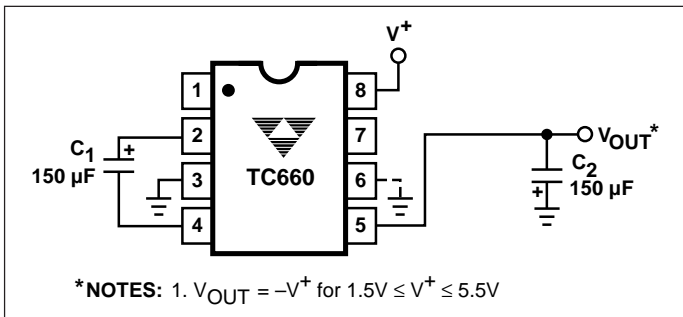
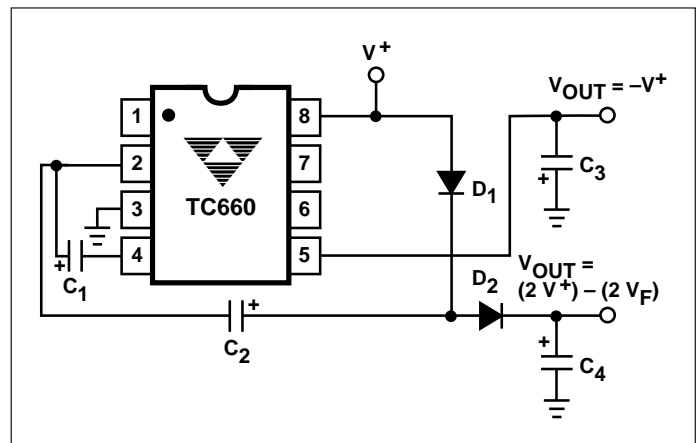

Figure 3. Simple Negative Converter
Figure 10. Combined Negative Converter and Positive Multiplier
Figure 3 shows typical connections to provide a negative supply where a positive supply is available. A similar scheme may be employed for supply voltages anywhere in the operating range of +1.5V to +5.5V, keeping in mind that pin 6 (LV) is tied to the supply negative (GND) only for supply voltages below 3.0V.
The output characteristics of the circuit in Figure 3 are those of a nearly ideal voltage source in series with 6.5Ω. Thus, for a load current of -100mA and a supply voltage of +5V, the output voltage would be -4.35V.
Figure 10 combines the functions shown in Figures 3 and 8 to provide negative voltage conversion and positive voltage multiplication simultaneously. In this instance, capacitors C_1 and C_3 perform the pump and reservoir functions, respectively, for the generation of the negative voltage, while capacitors C_2 and C_4 are pump and reservoir, respectively, for the multiplied positive voltage. There is a penalty in this configuration in that the source impedances of the generated supplies will be somewhat higher due to the finite impedance of the common charge pump driver at pin 2 of the device.